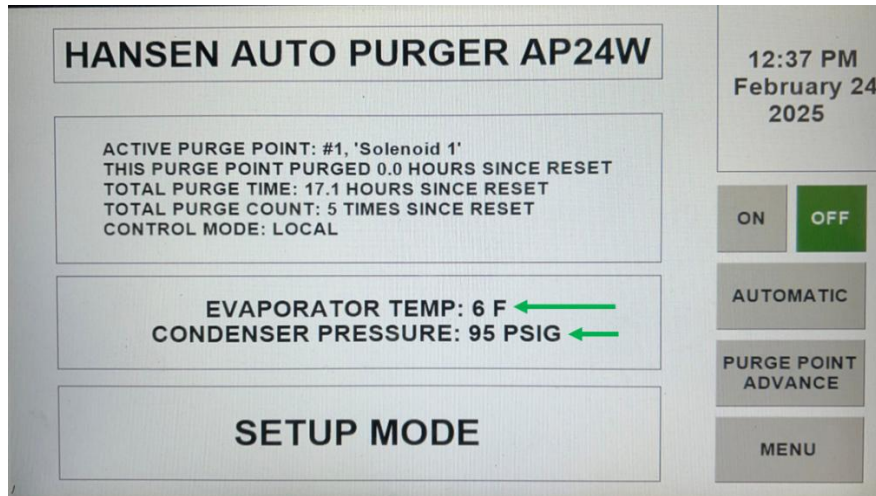

Figure 13. HOME Page in Setup Mode
1. Power on the purger using the red toggle switch inside the control cabinet. See Figure 13.